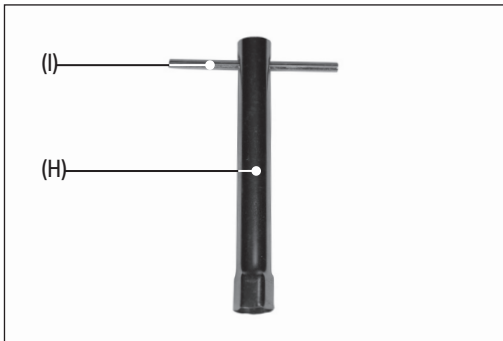

Fig. 19
2. Pass the spark plug spanner handle (I) through the holes in the spark plug spanner body (H) and use the assembled spanner to remove the spark plug (Fig. 19).